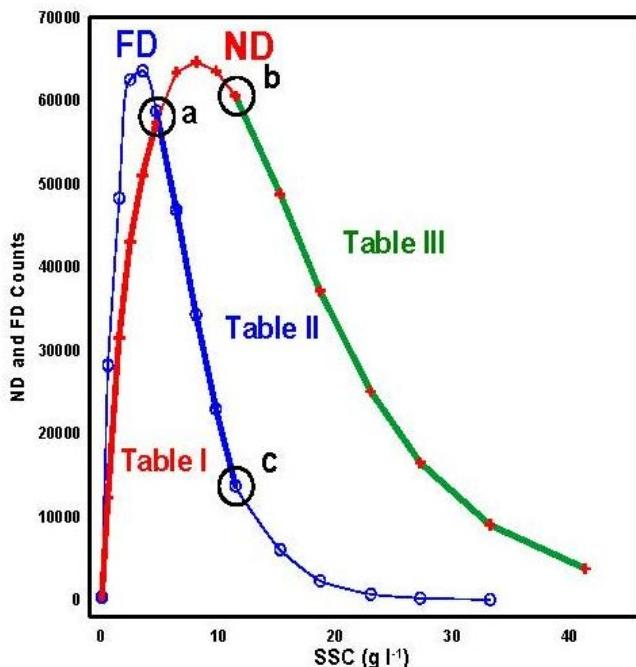

Figure 7-2. Lookup tables and table limits (a, b, and c)
The OBS-5+ uses response curves from the near and far detectors to create three lookup tables like those shown on Figure 4-3 and Figure 7-2. The objective of sediment calibration is to create lookup tables from the sediment you will monitor. The OBS-5+ can store lookup tables for as many as 14 sediments. The fifteenth table is reserved for auto-saved archives.
During a calibration, the first table, highlighted in red, is created from the rising limb of the near detector response between zero counts and point “a” (Figure 7-2). The second table, bold blue curve, is used for mid-range SSC values. It is derived from the descending limb of the far detector curve between points “a” and “c”. High SSC values are estimated from a third lookup table, indicated by the bold green line and point “b”, and are derived from the descending limb of the near detector curve. A calibration consists of a set of 15 to 30 calibration points that each includes an SSC value, a near detector count, and a far detector count.
- 14) To compute the lookup tables, click the **Calculate Fit** button and supply the requested information. Referring to Figure 7-2, pick point ‘a’ by counting the number of data points on the ND curve from the origin (0, 0) to the first point beyond where the ND and FD curves cross, 6 in Figure 7-2. Select ‘b’ at the first point on the falling limb beyond the ND peak where it becomes linear, 10 on Figure 7-2. Point ‘c’ is the first point in the FD curve where it starts decay exponentially, also 10 on Figure 7-2 9. Points ‘b’ and ‘c’ will usually have the same numerical value.